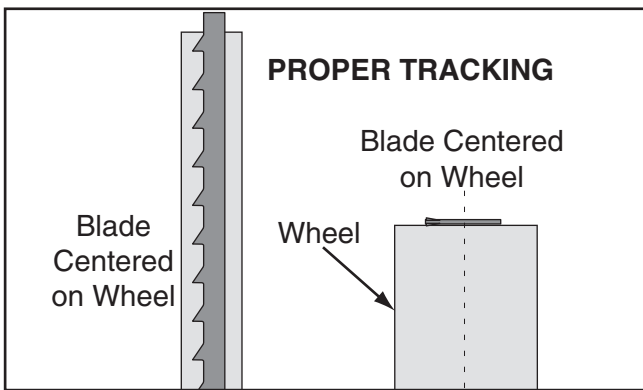

Figure 20. Blade centered on crown of wheel.
Bandsaw wheels are either flat or crowned and both shapes track differently. The G0948 has crowned wheels. As the wheels spin, a properly tracking blade naturally tracks at the center of the wheel (see **Figure 20**).
6. Rotate upper wheel by hand several times and watch how blade rides on wheel (see **Figure 20** on **Page 20** for an illustration of this concept).